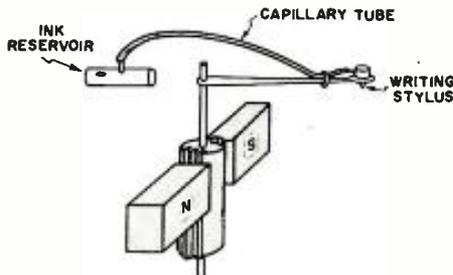

Fig. 2. The first writing system developed.
Fig. 2 shows the first writing system developed for the direct-writing oscillograph. This merely consisted of hanging a stylus on the end of the galvanometer pointer. While this presents no problem in a D'Arsonval meter, since the scale can simply be ruled along an arc corresponding to the arc the pointer is required to travel, it does present some interesting problems when we attempt to apply the same method to record on moving paper. If we are to have a system for making accurate time and amplitude measurements, it is necessary to rule the recording paper with some sort of reference lines. A sample of paper designed to be compatible with the system of Fig. 2 would have to be ruled as shown in Fig. 3A. As may be suspected, this would be exceedingly difficult to work with and further refinements are necessary. These mainly consist of lengthening the writing stylus to produce a correspondingly smaller arc at the point of contact with the paper and limiting the stylus travel to a very small part of that arc. This allows the recording paper to be ruled as shown in Fig. 3B. This is known as the *curvilinear* writing method and is one of the two types available in direct-writing oscillographs today. Fig. 5 shows the *rectilinear* writing method. This system permits the recording paper to be ruled in straight lines of equal separation and is the preferred system.
Fig. 3. (A) Graph suitable for use with the writing system in Fig. 2. (B) By using a longer writing stylus, the recording paper may be ruled as shown. This type of recording is in present use and is called *curvilinear*.